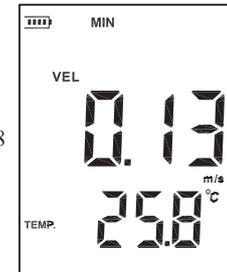

Figure 8
- When measuring minimum value of wind velocity, a " MIN " will be shown on the upper LCD screen, as shown in figure 8: